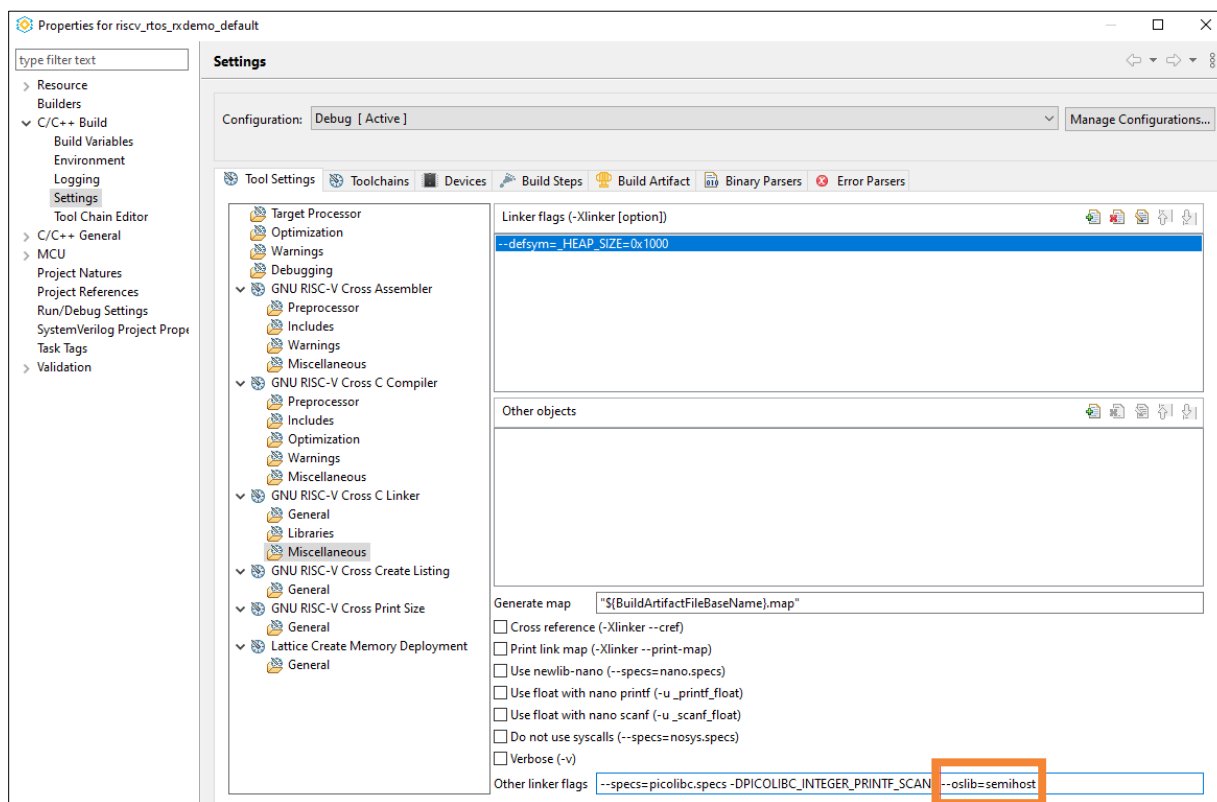

Figure 5.27. `--oslib=semihost` Linker Flag
7. Select **GNU RISC-V Cross C Linker > Miscellaneous**. Check link flags under the label, Other linker flags. Make sure the linker flag, `--oslib=semihost`, is supported (Figure 5.27).